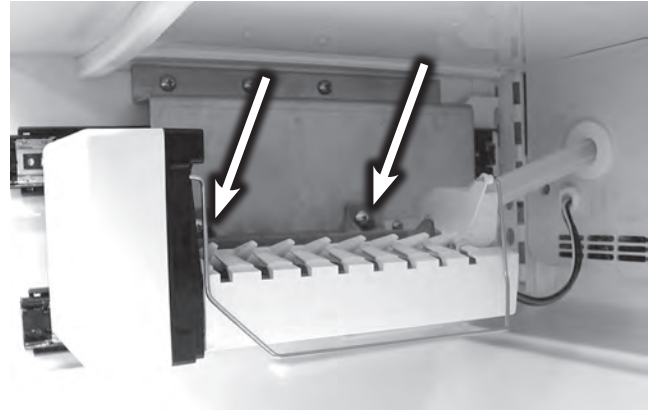

Figure 2
1. Remove the 2 screws securing the ice maker to the mounting plate, see figure 2.